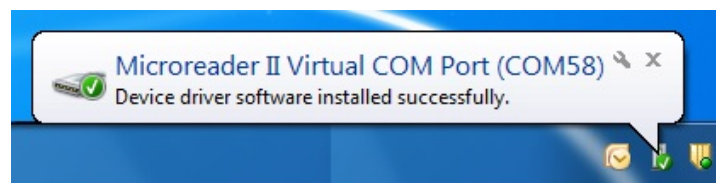

Figure 4. Driver Installed Successfully
5. Connect the reader. After installation is complete, the message shown in Figure 4 is displayed.